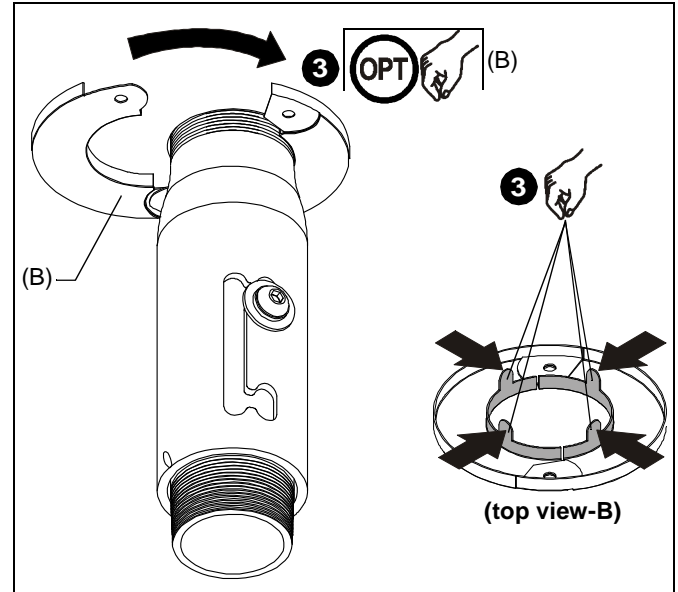

Figure 11
3. Install NPT ring (B) on extension column below ceiling tile (See Figure 11). If necessary, bend four tabs inward to secure ring to column.